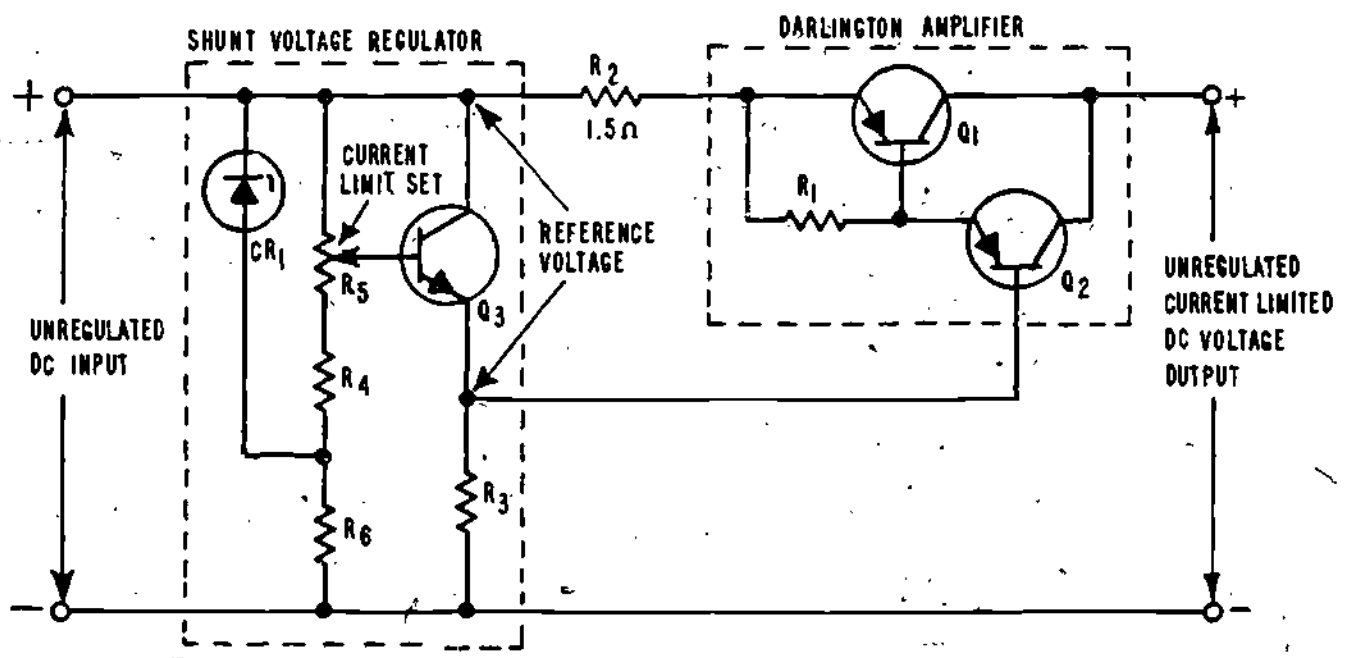

FIGURE 32
40. You now understand the principles of current limiting. The schematic shown in Figure 32 shows how a current limiter is used in an actual circuit. Examination of the schematic reveals that the limiter is in fact made up of two separate circuits which you already understand; a Shunt Voltage Regulator and a Darlington Amplifier. Notice that components which make up the two circuits mentioned have been outlined with dotted lines to help you understand the relationship more readily.